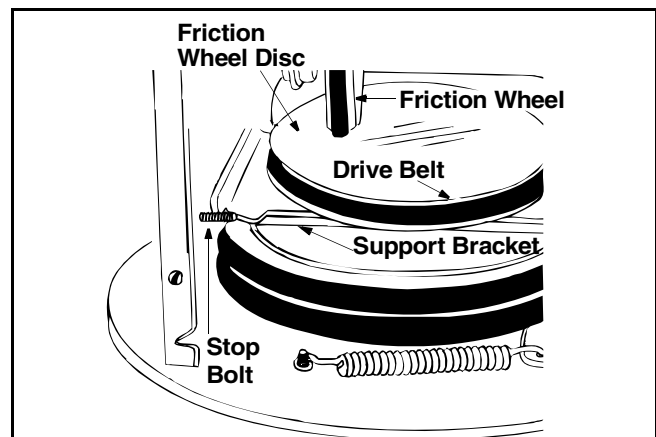

Figure 28
- Using a wrench, loosen the nut on the stop bolt until the support bracket rests on the auger pulley. See Figure 28.
**NOTE:** The support bracket must rest on the stop bolt after the new belt has been assembled. See Figure 28.